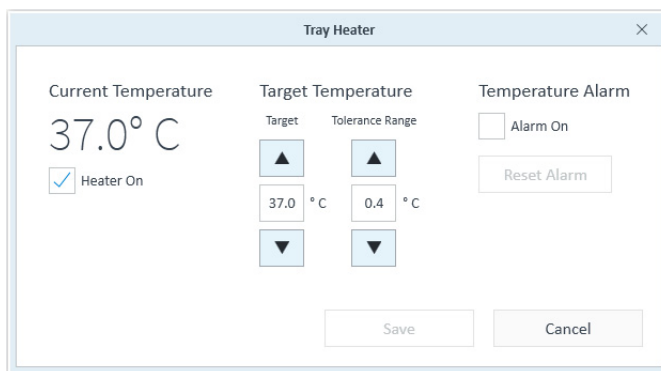

Figure 10 Edit temperature settings (Tray Heater dialog box).
The **Tray Heater** dialog box is displayed. (See Figure 10.)
- 1 Select the **Alarm On** check box in the **Tray Temperature** window. (See **Figure 10** on page 29.)